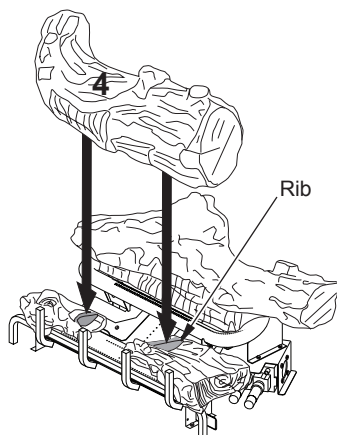

Figure 32 - Installing Log #4
4. Place front log (#4) on top of left and right bottom logs as shown in Figure 32.